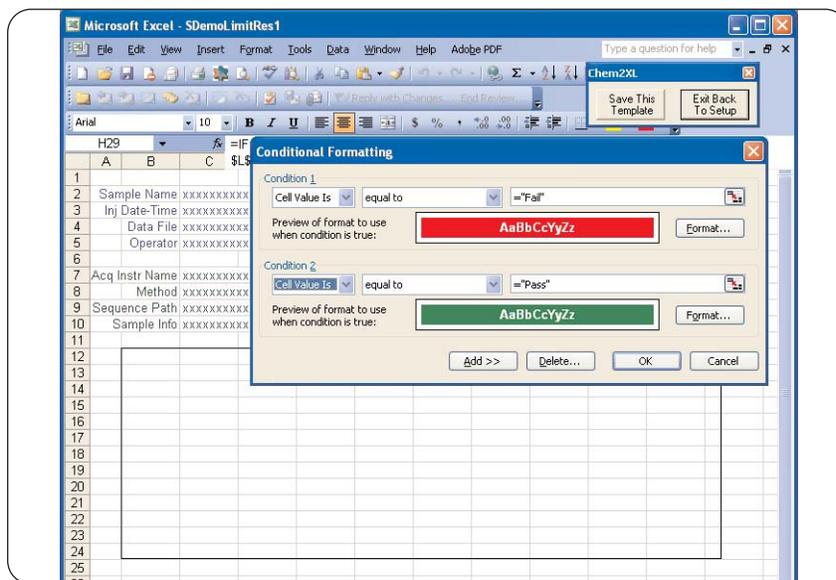

Figure 3
Step 2: After clicking *Create Template* (or editing an existing template with *Open Template*), the Excel sheet opens, showing the items which were selected in the Wizard. You will see only placeholders on the Excel sheet, because in the template stage no data has been entered into the report. In Excel, you may add a column, and/or custom calculations (such as a column which shows whether your sample passed or failed). In figure 3, an equation is used to test whether the resolution is in the specified range. Conditional formatting is also applied to give passing cells a green color and failing cells a red color. You can enter simple or sophisticated formulas in the cells of the template, depending on your needs.